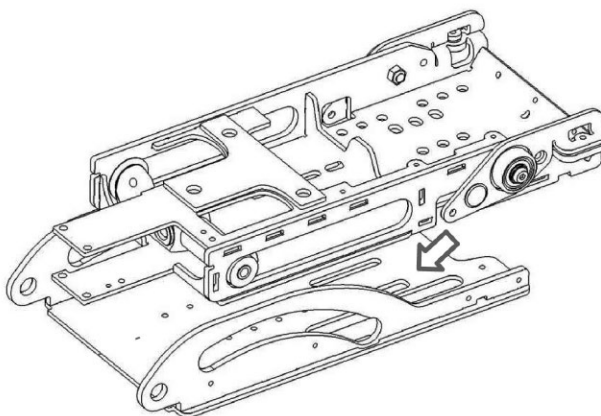

Fig. 20. Mount the two parts of the tilt together.
9. Position the two parts of the tilt together. See fig. 20.